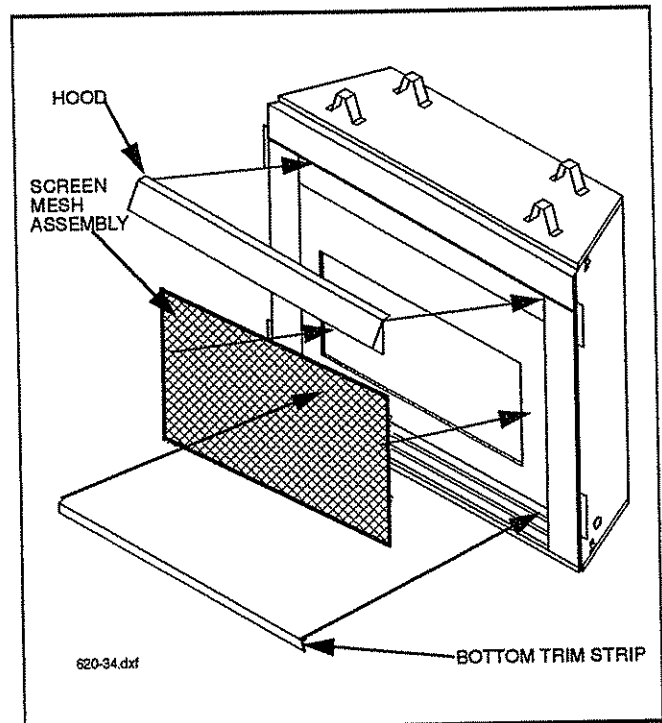

Fig. 44. Installation of the hood and trim strip.
4. Attach hood to surround top by inserting hood between surround top and pressure clips. The 45° angle on the hood should be flush with the face of the top surround. (See Fig. 44.)
5. Place one (1) bottom trim strip onto top of lower grille. Remove protective covering from double back tape. (Available only with brass trim kit.)